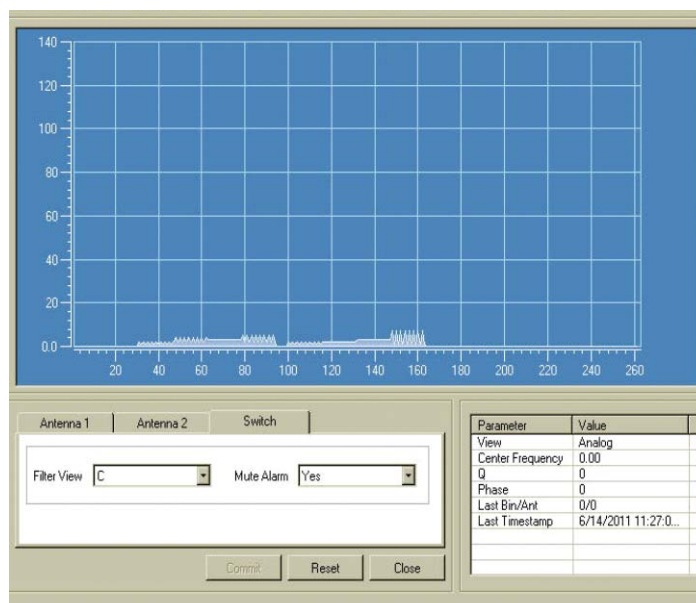

Figure 6.1 Typical Tuning on Filter C View
5. Flip to View C and adjust RX Gain individually for each antenna until empty spots occur (see notches in graph), indicating disappearance of background resonances. Because of the natural resonance for the TR4215, the view should look like Figure 6.1. The RX Hardware gain usually does not need to be adjusted (and remains set at 31).